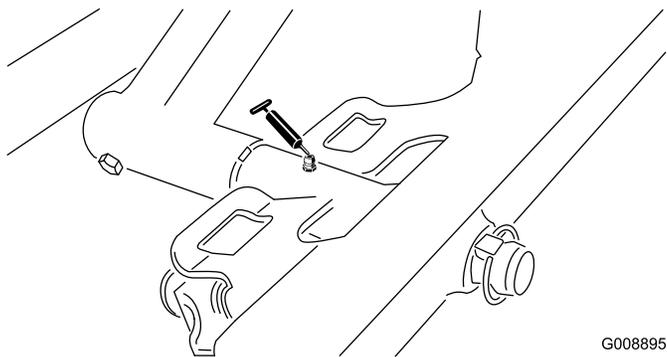

Figure 31
- Front cutting unit pivot (Figure 31)